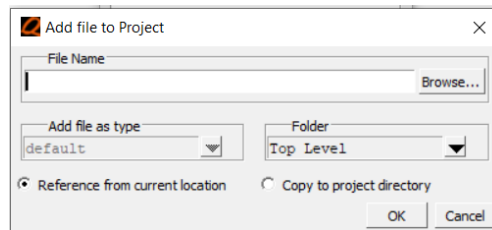
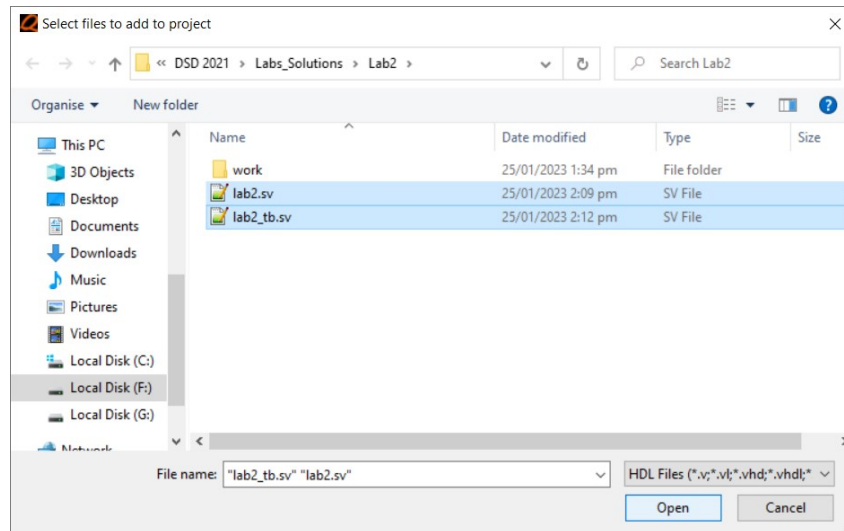

Fig. 2.5: Add File to the Project window.
Fig. 2.6: Adding RTL and test bench files to project.
4. Next click on *Browse* (Fig. 2.5 ) and select the System Verilog RTL and test bench code file (Fig. 2.6), click *Open* and then click *OK*.